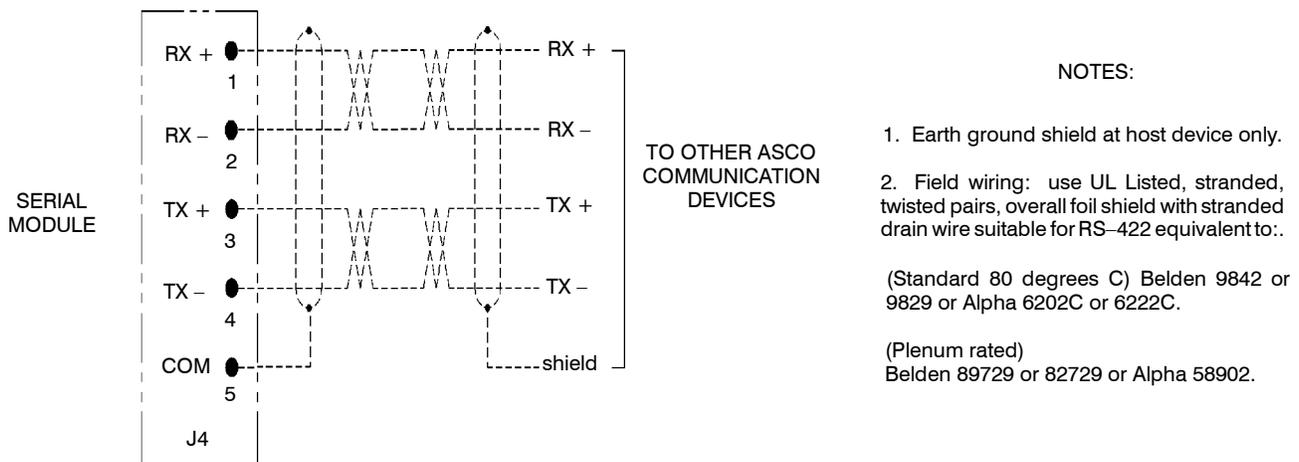

Figure 3. Serial communication connections to the Serial Module.
3. Prepare and connect the specified communication cable (Table A) to the Serial Module J4 terminal plug as listed in Table B and shown in Figure 3.